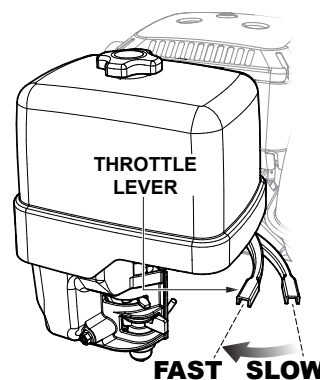

Figure 20. Throttle Lever (Fast/Run Position)
- To begin compacting, place the throttle lever (Figure 20) in the "FAST" (RUN) position.